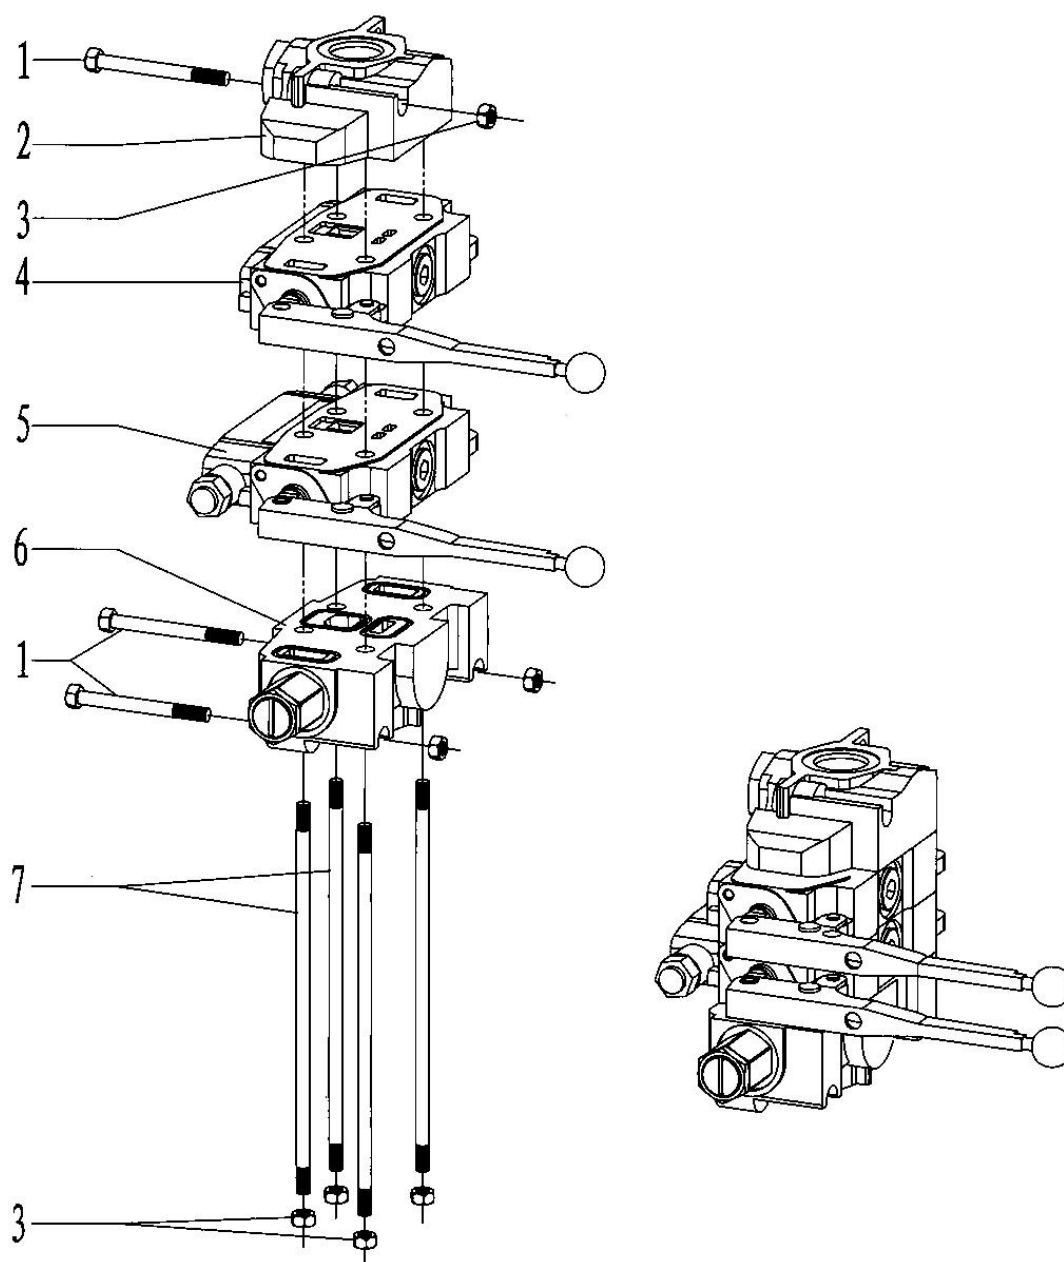

Fig. 15
7.1.8 Hydraulic valve bank (four connection valve)(Fig.15, Table.10)